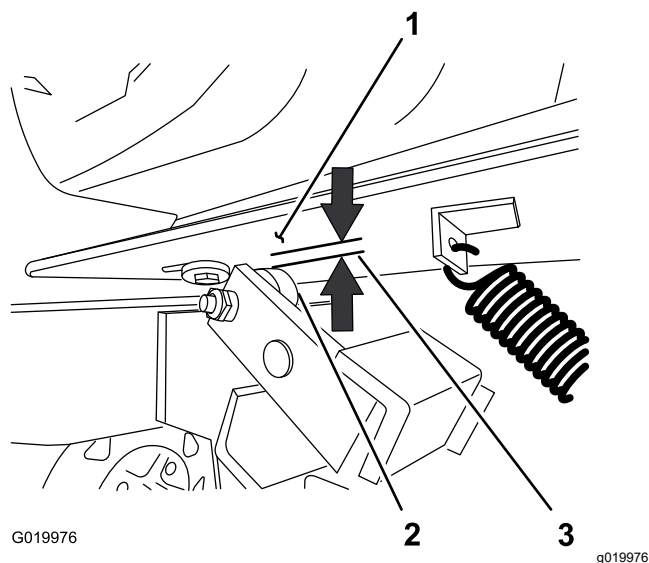

Figure 64
5. Measure the air gap between the engine deck and the roller on the clutch (Figure 64).